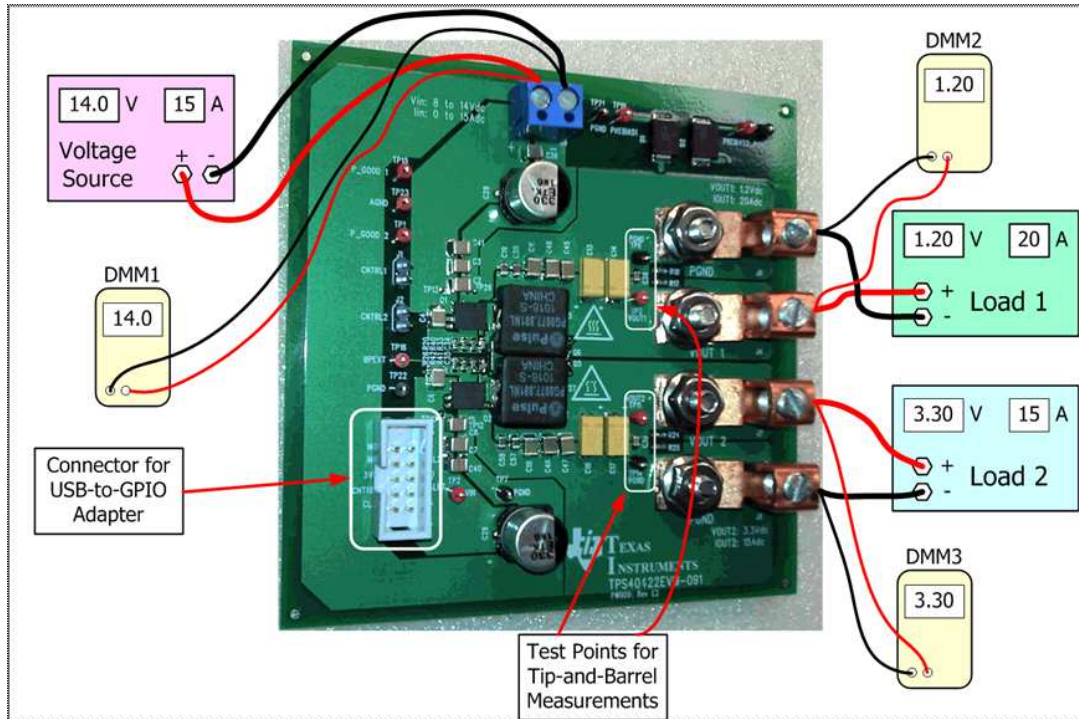

Figure 2. PWR091EVM Recommended Test Setup
Voltage Source: The input voltage source VIN must be a 0-V to 14-V variable dc source capable of supplying 15 Adc. Connect VIN to J5 as shown in Figure 2.
Multimeters: It is recommended to use three separate multimeters as shown in Figure 2. One meter to measure Vin, one to measure Vout1 and the third to measure Vout2.
Output Load: Two variable electronic loads are recommended for the test setup as shown in Figure 2. Load 1 must be capable of 25 A at voltages as low as 0.9 V. Load 2 must be capable of 20 A at voltages as low as 3 V.
2. Apply the input voltage to the EVM. See Figure 2 and Figure 3 for connections and test setup.
1. Set up the EVM as described in Section 4.3 and Figure 2.